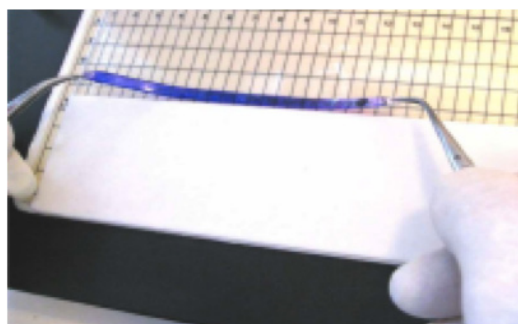

Fig. 3: Placing the IPG-Strip
- Place the IPG-Strip in the well by using 2 tweezers. Gel side of the IPG-Strip downwards (towards the 2D gel; fig. 3).